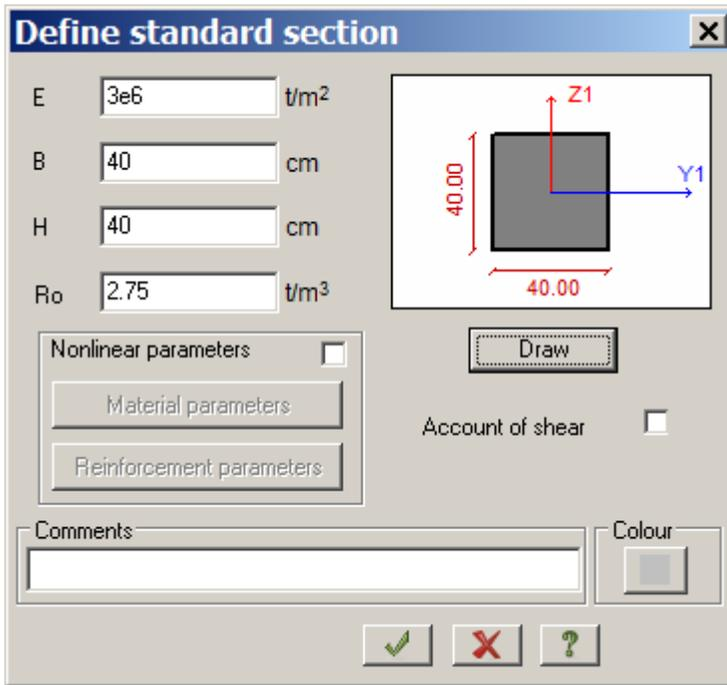

Figure 22.4 Define standard section dialog box
- ⇒ In the **Define standard section** dialog box specify the following parameters for **Rectangular bar** (see Fig.22.4):